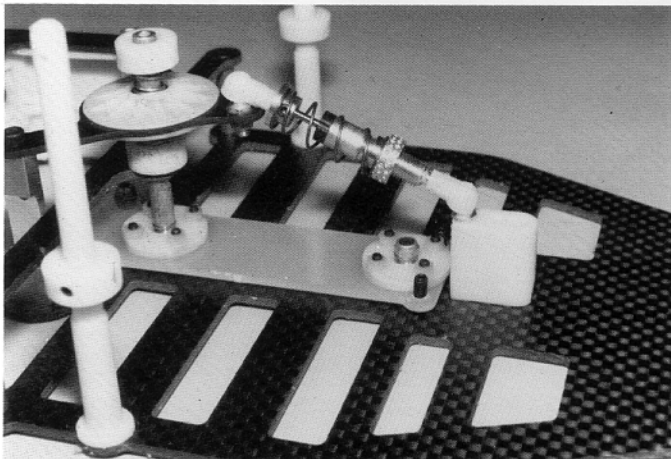

Fig. 49
□ **Fig. 49**—Snap the shock onto the ball ends as shown.